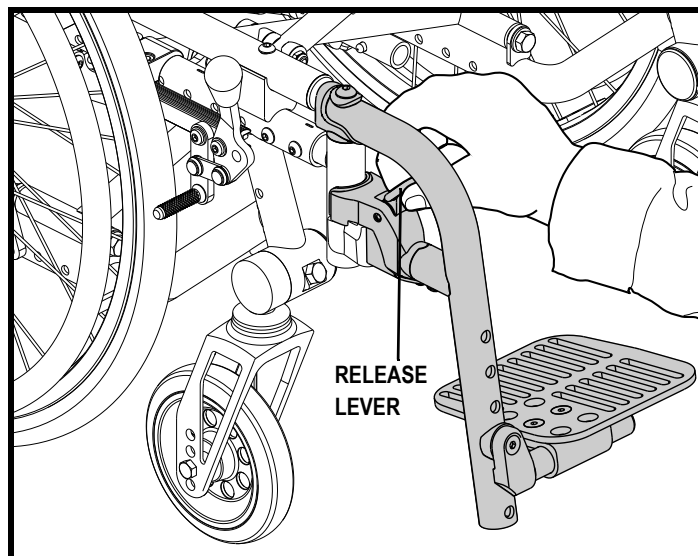

Figure 18. SFR Release
1. Push the release lever back. See figure 18.